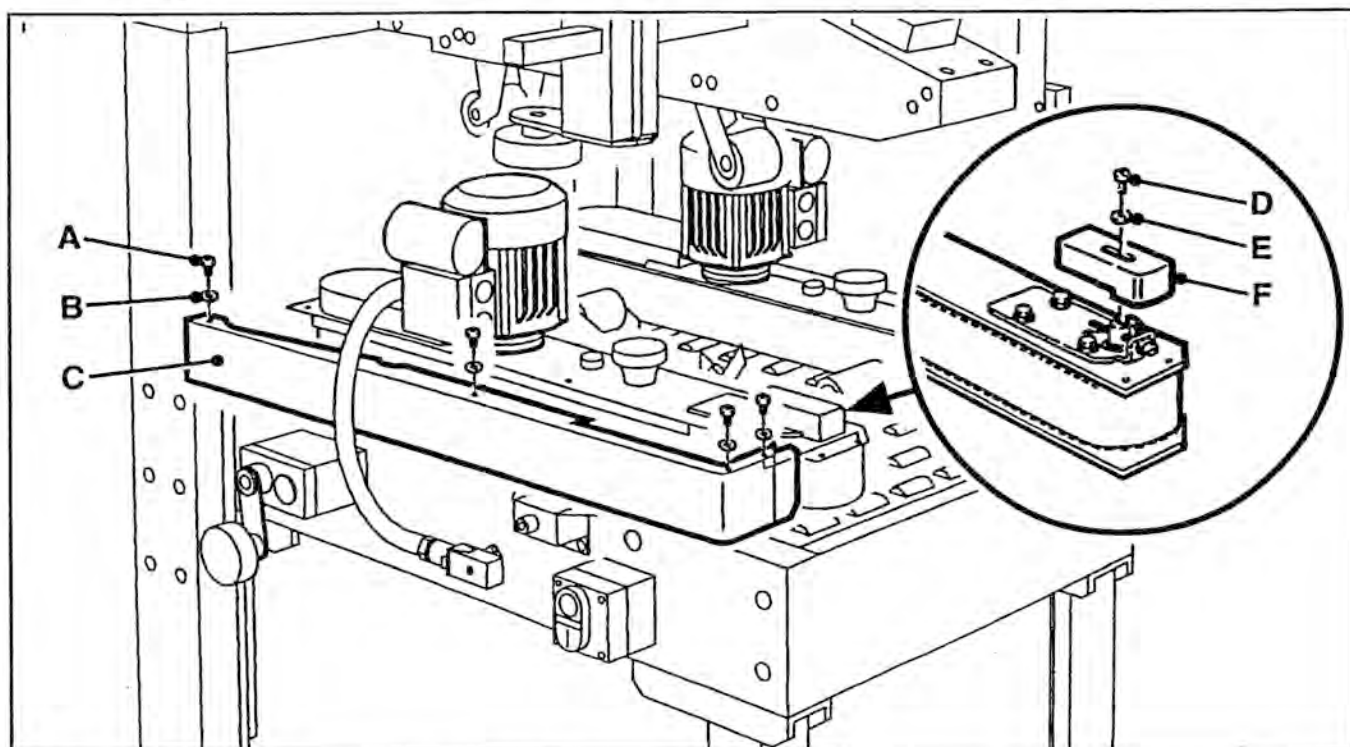
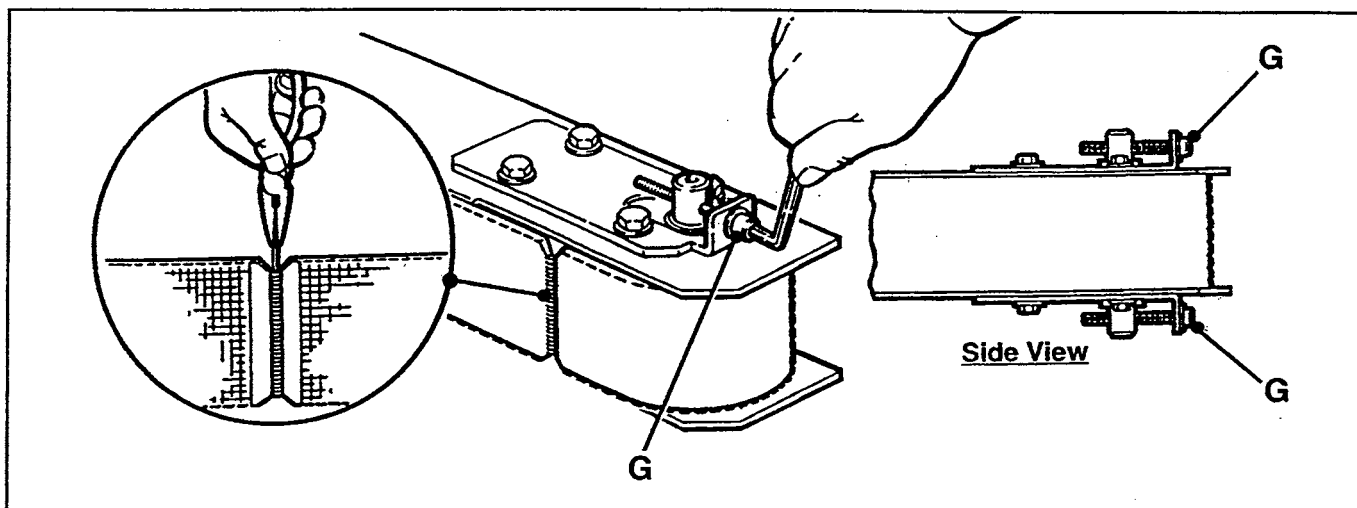

Figure 4-2 – Box Drive Belt (Left Side View – Infeed End)
Figure 4-3 – Drive Assembly – Infeed End
2. Remove and retain the four screws (A), four washers (B) and side cover (C). See Figure 4-2
3. Remove and retain the screw (D), washer (E) and belt tensioner cover (F).
4. Turn belt adjustment screws (G) counterclockwise on both the upper and lower tension assemblies until belt is loose. See Figure 4-3.
7. To set drive belt tension – turn adjustment screws (G) equally on both the upper and lower tension assemblies. Turn the screws clockwise to increase tension or counterclockwise to decrease tension. See Figure 4-3.